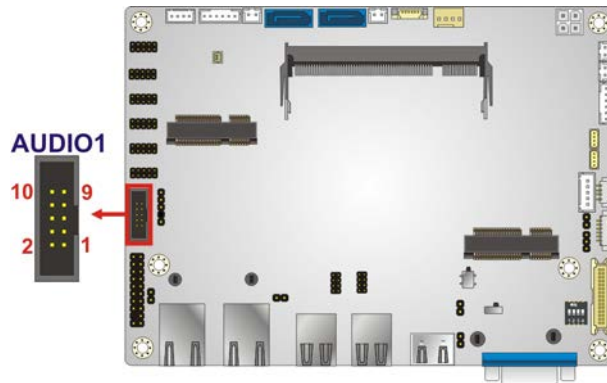

Figure 3-3: Audio Connector Location
- CN Location:** See **Figure 3-3**